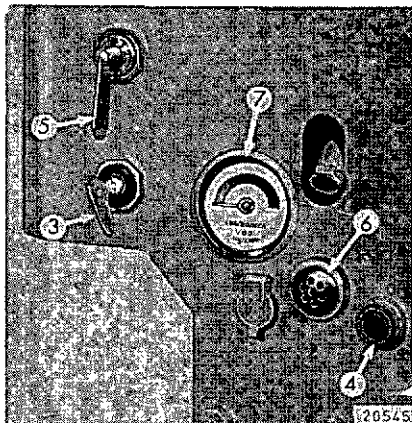

Fig. 7
3. Insert switch box key 3 (Fig. 7) and check that charging pilot lamp 4 lights up.
4. To preheat turn heater plug/starter key 5 to position 1. Preheat for about 30 to 60 seconds and in winter at low temperatures for approx. 1 to 2 minutes. Check that heater plug indicator 6 glows up slowly. Preheating is not required when the engine is still warm.
5. Turn heater plug/starter key 5 further to position 2. Release key as soon as engine starts firing. Do not operate the starter motor uninterruptedly for more than 10 seconds. The life of the battery and that of the starter motor will be prolonged if an interval of about 1 minute is allowed between successive starting attempts. Do not start as long as the engine is still running. For starting under winter conditions please refer to the instructions on page 12.
2. Operate stopping lever 2 on injection pump until the engine comes to a stop. In case of an electrically started version, the charging pilot lamp 4 (Fig. 7) and, where an oil pressure indicator lamp is provided, the latter will light up.
3. Pull out switch box key 3 (Fig. 7) whereupon the charging pilot lamp 4 and the oil pressure indicator lamp — if provided — will go out.